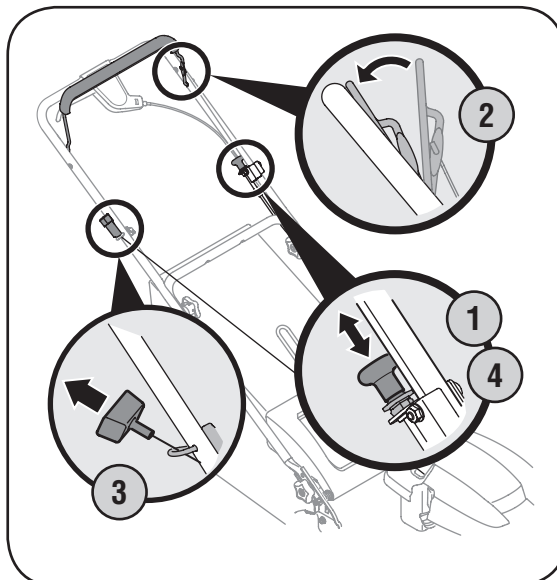

Figure 9-3: Starting the mower. (Your mower may differ from that shown)
1. Pull out the choke knob located on the left side of the upper handle, Figure 9-3. Use of the choke may not be necessary if the engine is warm or the air temperature is high.
3. Pull the starter grip lightly until resistance is felt, then pull rapidly to overcome compression, prevent kickback, and start engine. Repeat if necessary, Figure 9-3.
4. When engine warms up, push in the choke knob, Figure 9-3.